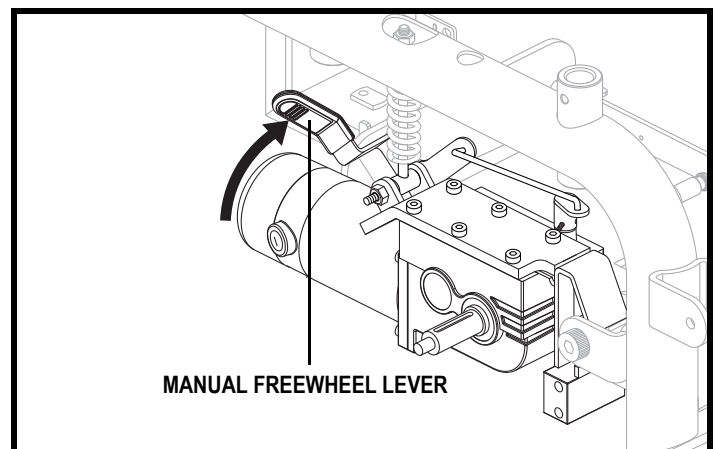

Figure 8. Drive Mode (Drive Engaged)
2. Pull the manual freewheel lever on each motor up for drive mode (drive engaged). See figure 8.
2. Ensure the power chair is in drive mode. See figure 8.